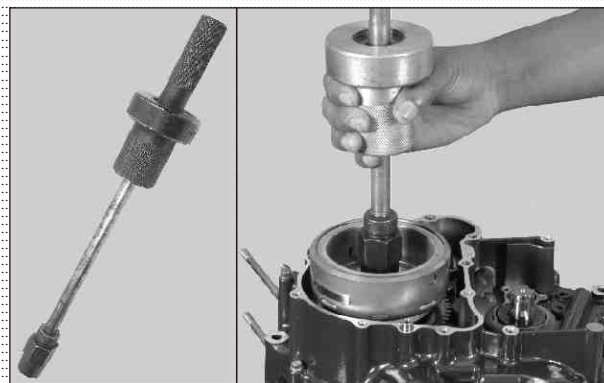

Fig. 1.11
- To remove magneto rotor from the crankshaft assembly. (Fig 1.11)